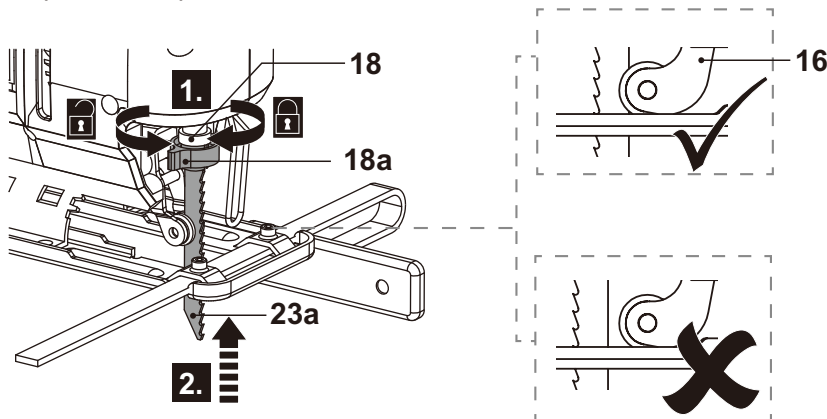

Fig. 1
- > Press the release lever (18a) and hold it in position (Fig. 1, step 1).
- > Insert the required saw blade (23a, 23b) into the tool socket (18) all the way to the stop (Fig. 1, step 2). Ensure the blade edge sits properly against the blade guide (16).